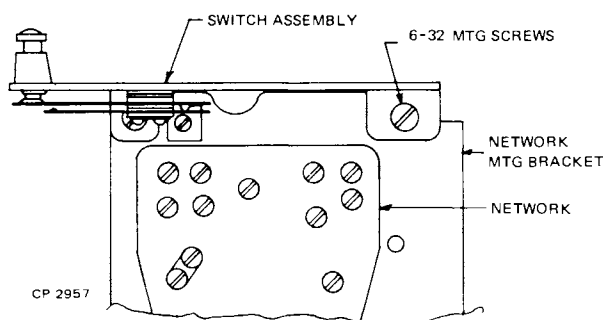

Figure 9. Transfer Switch Assembly Mounting
- f. Mount switch assembly to network bracket with two screws provided (see fig. 9).